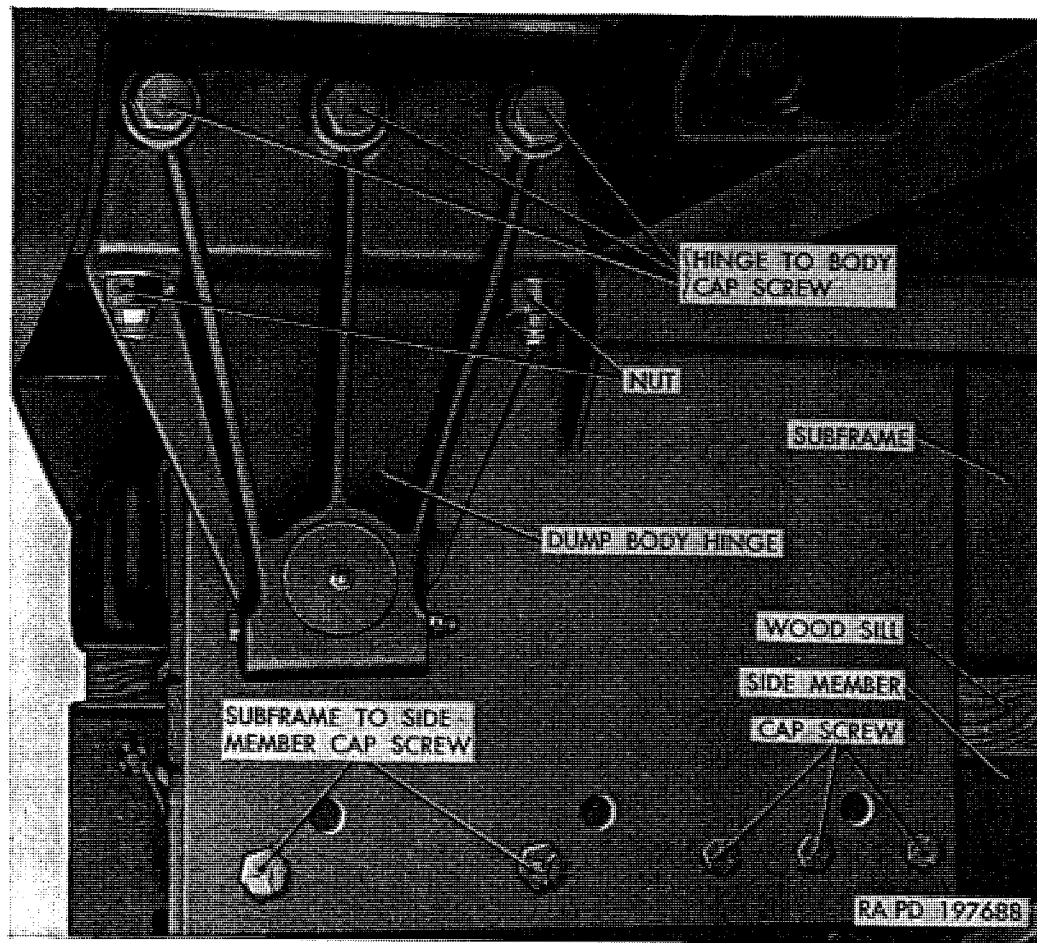
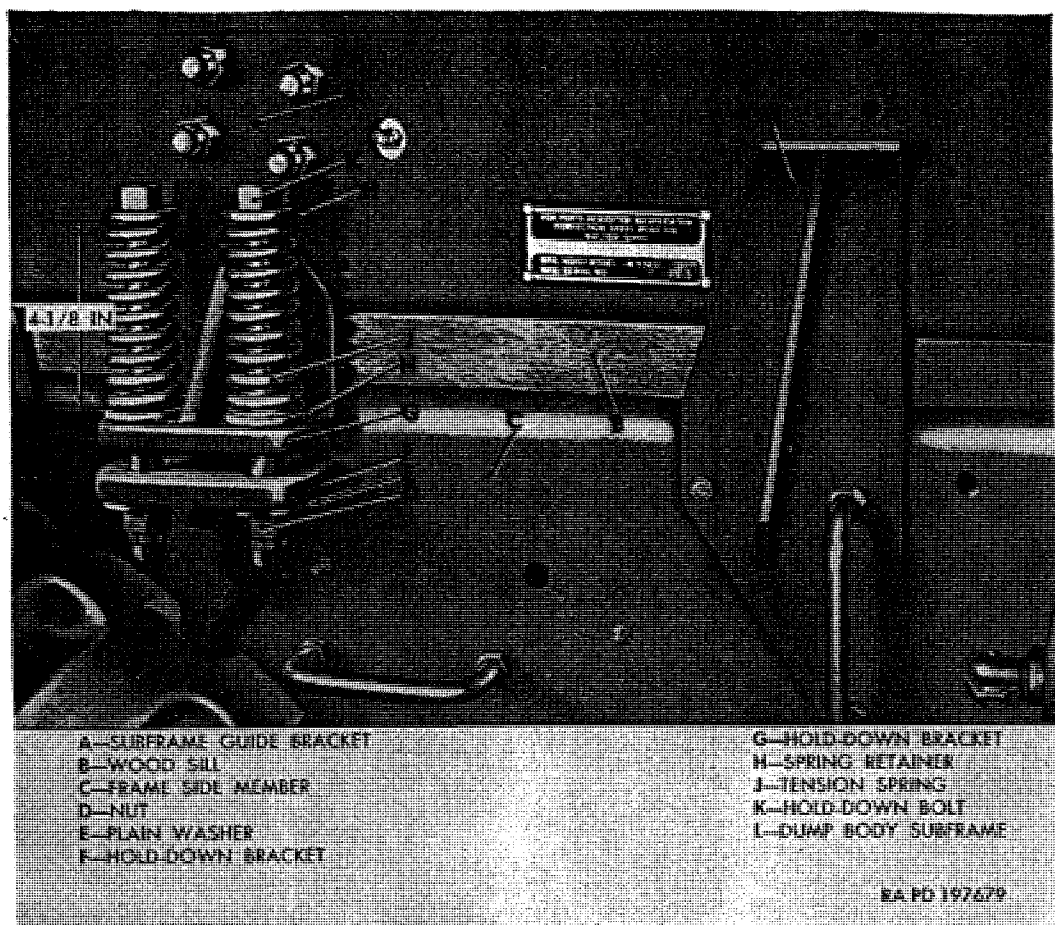

Figure 350. Body and subframe rear mounting.
Figure 351. Subframe front mounting.
b. *Body Mounting.* Body (fig. 350) is secured to subframe by hinges at each rear corner. Hinges are held to body by five cap screws and nuts. Also, each hinge is attached to subframe by a hinge pin which serves as a bearing when body is raised and lowered.
c. *Subframe Mounting.* Subframe assembly is rigidly attached to vehicle frame side member at rear (fig. 350), and flexibly mounted at front (fig. 351). Wood sill strips are used between subframe and vehicle side members.
- (1) *Rear mounting.* Subframe (fig. 350) is secured to each vehicle side member at rear by five cap screws and nuts. Cap screws should be inspected for tightness at intervals indicated in paragraph 79, table V.
- (2) *Front mounting.* Subframe mounting at each side near front is flexible-type shown in figure 351. At installation, hold-down bolts (K, fig. 351) and nuts (D, fig. 351) should be tightened until tension springs (J, fig. 351) are compressed
to $4\frac{1}{8}$ inches as shown in figure 351. At intervals indicated in paragraph 79, table V, inspect springs for proper compressed height and broken coils. Inspect hold-down brackets to be sure they are tight at vehicle and subframe side members.